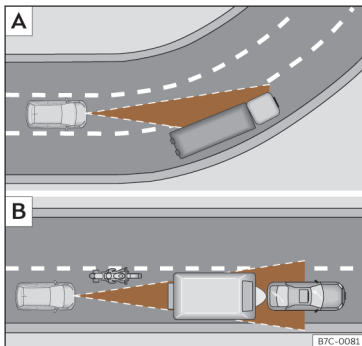

Fig. 164 **A** Vehicle on a bend. **B** Motorcyclist ahead, out of range of the radar sensor.
The ACC may not detect the vehicle in front on a curve, or may regulate the distance from vehicles in other lanes» **Fig. 164** **A**.
- Vehicles that are not aligned while driving or that are outside the sensor's detection area, such as motorcycles» **Fig. 164** **B**